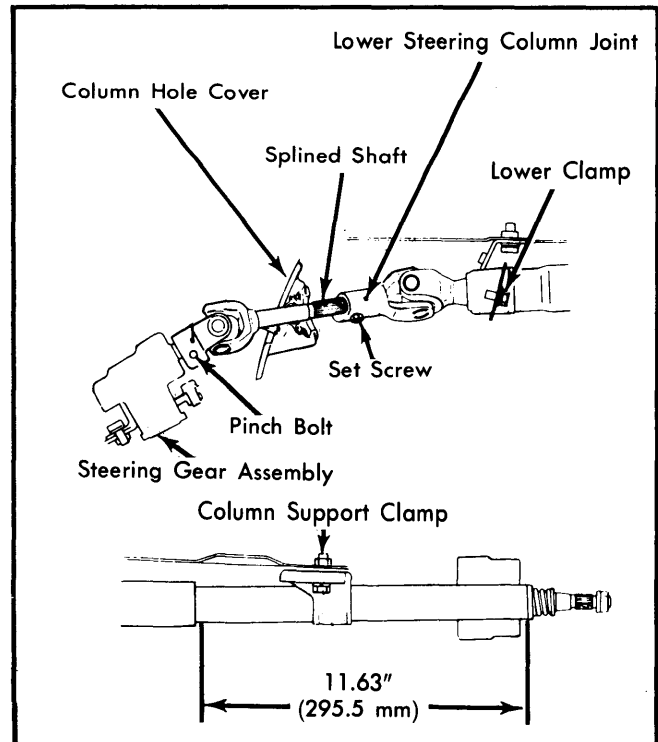

Fig. 1 Datsun F10 Steering Column Assembly
4) Measure distance between top end of upper column tube and top end of lower column tube. Distance should be 11.63" (295.5 mm). See Fig. 1.